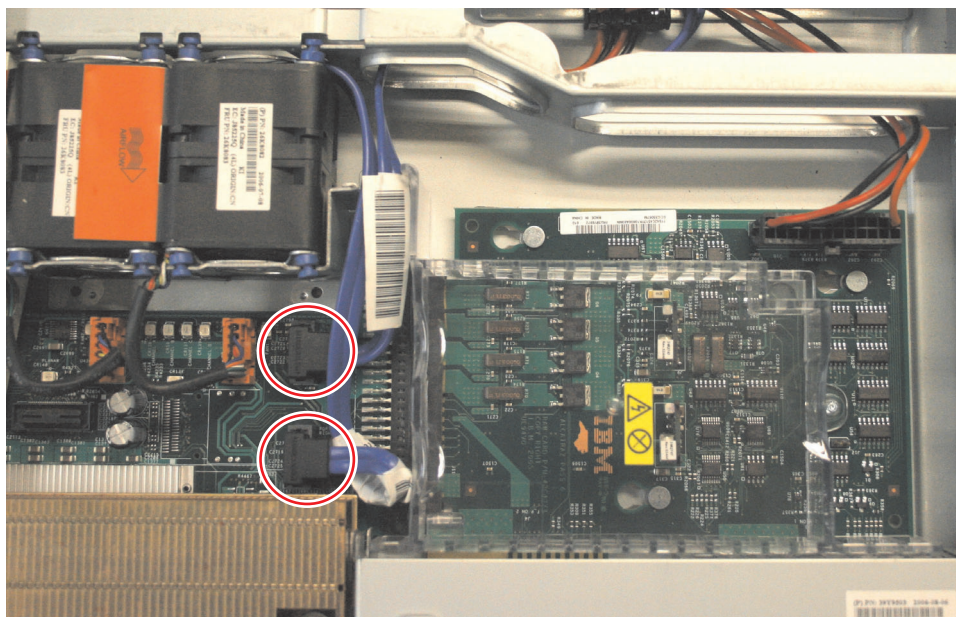

Figure 128. The SAN Volume Controller 2145-8G4 disk-drive backplane connectors
4. Reconnect the power cable to the power supply backplane card. Then reconnect the two blue signal cables to the system board. The left cable goes to the front system board connector and the right cable goes to the rear system board connector, as shown in Figure 128.